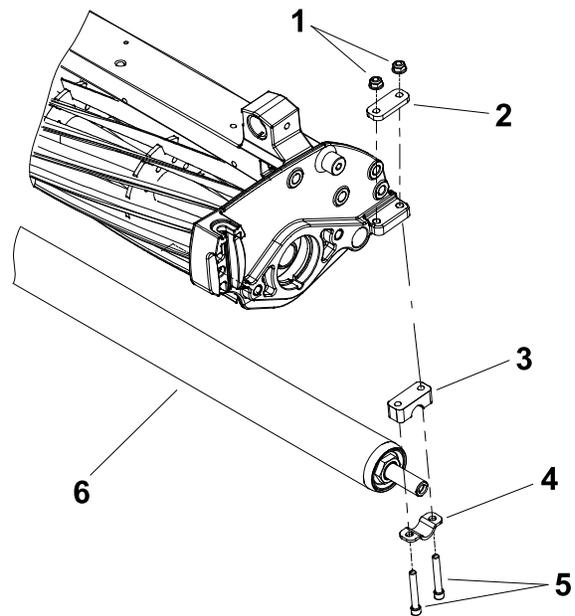

Figure 9
4. Perform the following steps to remove the rear roller assembly. Refer to Figure 9.